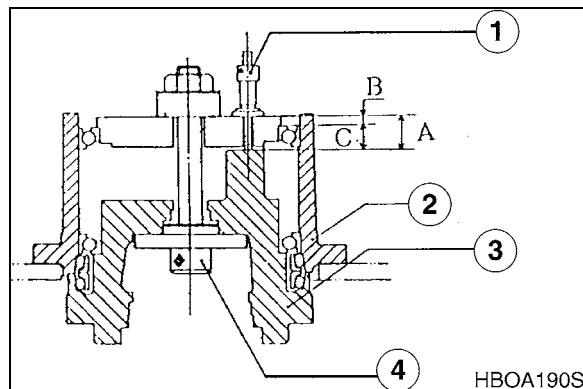

Figure 98
2. Through measuring hole of main bearing preload adjustment jig, measure the depth dimension "A" with a depth micrometer (1, Figure 98).